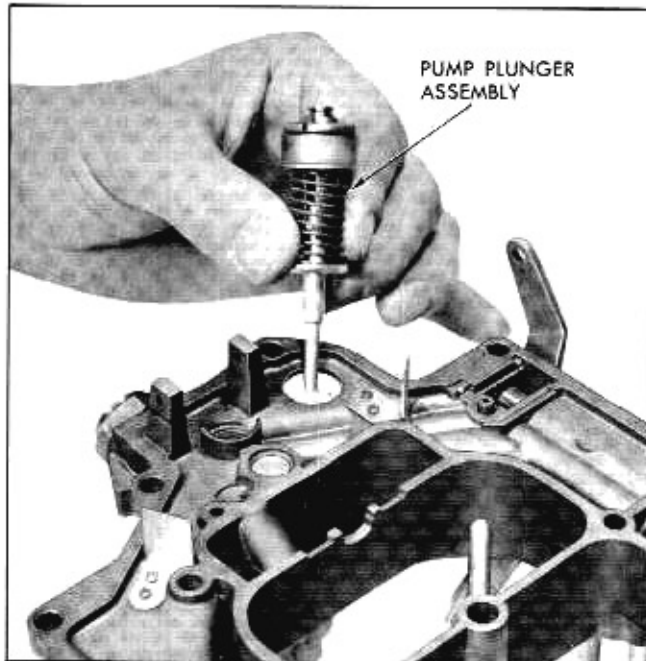

Fig. 6B-72 Removing Pump Plunger Assembly
14. Remove float needle, seat, gasket and strainer from primary side (Fig. 6B-71).